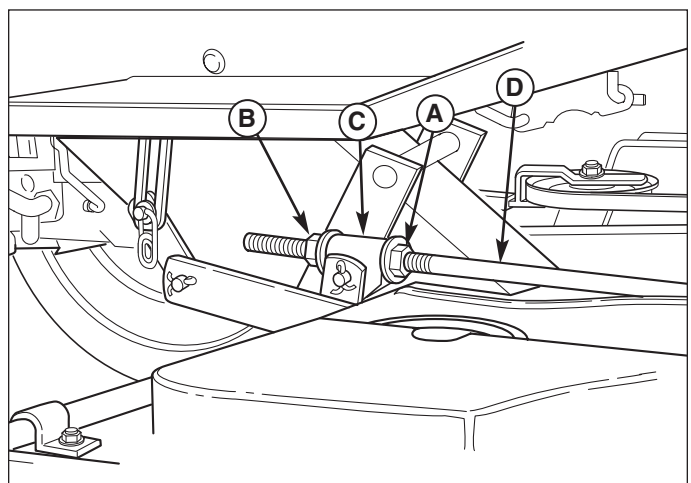

Figure 37. Leveling The Mower Front-To-Back
8. See Figure 37. To raise front of mower deck, loosen front nut (A) and turn rear nut (B) against bracket (C).
9. To lower front of mower deck, loosen rear nut (B) and bracket (C) will move backwards to lengthen rod.
10. Re-check measurement before tightening front nut (A) against bracket.